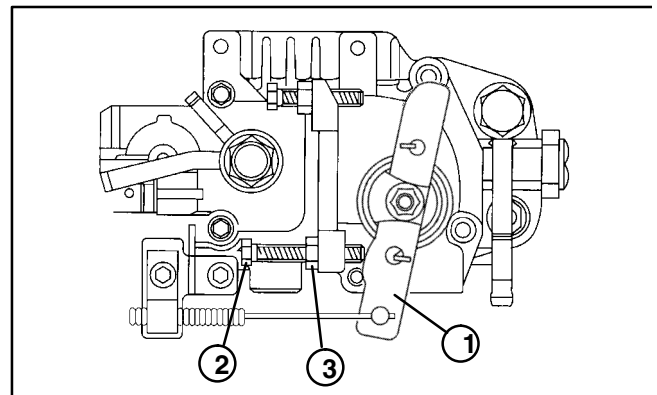

Figure 4
4. If high idle speed is incorrect, adjust high speed screw on fuel injection pump (Fig. 4).